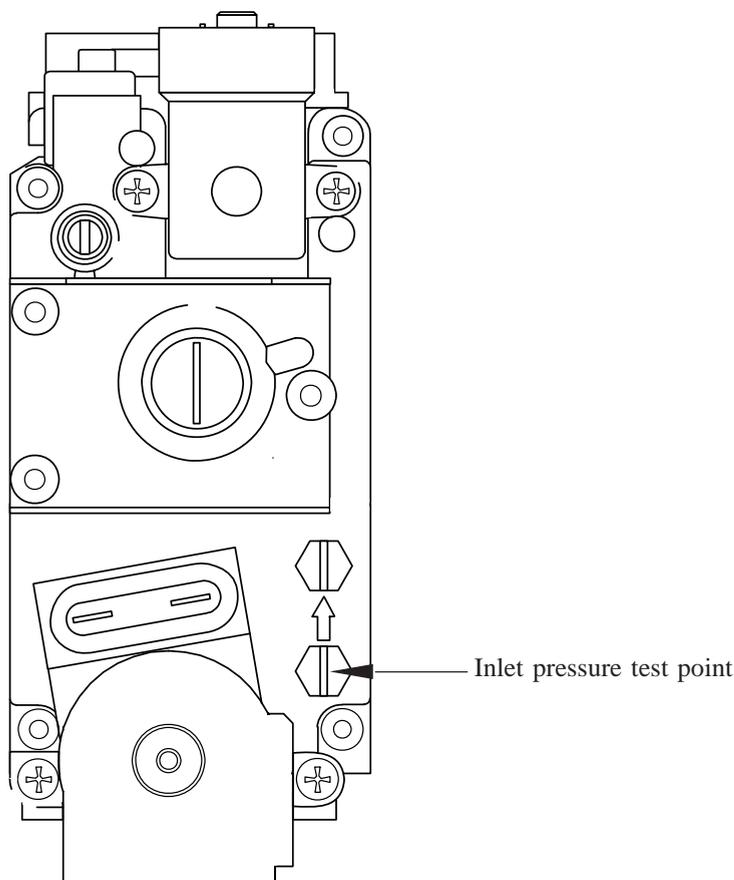

Fig. 5
- 7.8.2 Referring to Fig. 5, remove and retain the Burner Pressure Test Point blanking screw, and fit pressure test gauge to the test point,